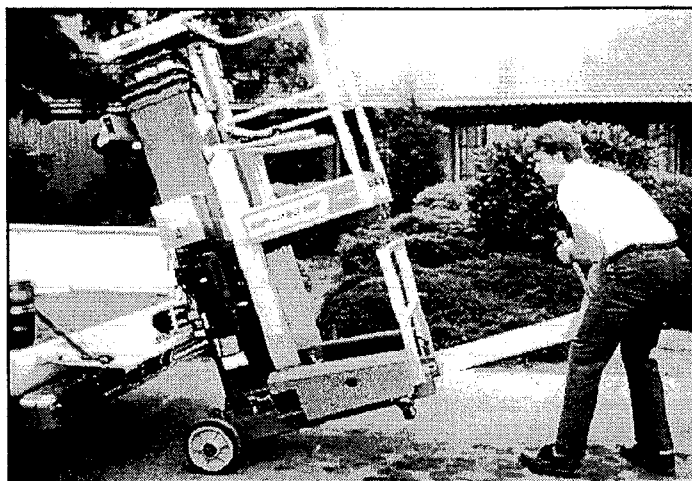

Figure 3-5: Tilting machine onto vehicle
5. Lift upward on the end of the outrigger using the loader as a pivot until the unit rotates to a horizontal position in the vehicle bed, Figure 3-5).